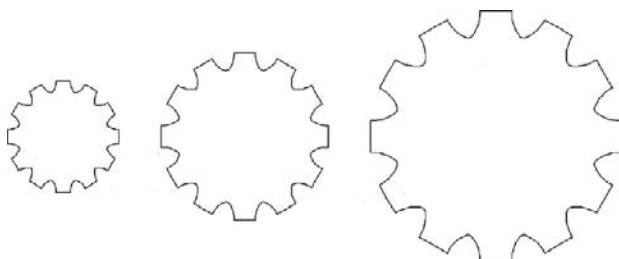

FIGURE 25.30
- Step 2.** Now copy the profile for a total of three items. Make each new copy 1.5 times larger than the previous one using scale, as seen in Figure 25.30.